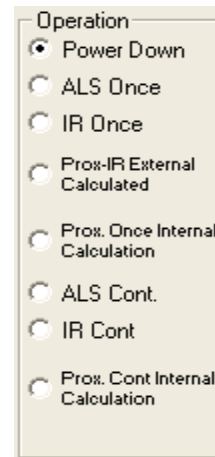

FIGURE 16.
- From the menu on the left, choose the specific “**Operation**” in which you would like to operate the IC, as shown in Figure 16. A detailed explanation is described in the datasheet (ISL29023). Table 1 summarizes the different modes.